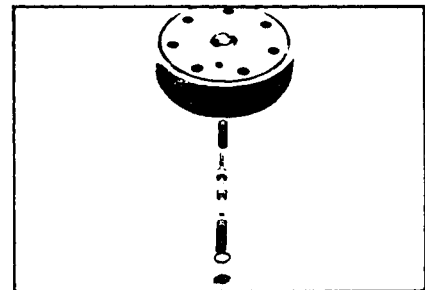

Figure 61
- 20. If shuttle valve components items #21, #22, #23, #24 were removed from the end cover (2) turn a plug (21) with a **new** o-ring (22), loosely into one end of the valve cavity in the end cover. Insert a spring (23) the valve (24) and the second spring (23) into the other end of the valve cavity. Turn the second plug (21) with a **new** o-ring (22) loosely into the end cover valve cavity. 3/16 inch Allen wrench required. SEE FIGURE 61.